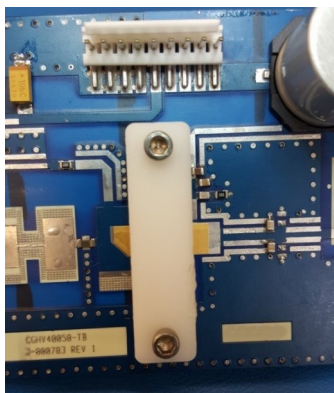
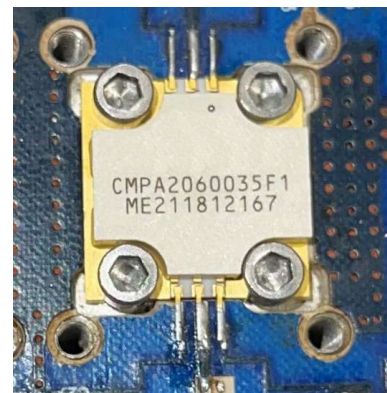

Figure 6
Figure 7
7. Use clamps, seen in **Figure 6** or solder the package leads, seen in **Figure 7** to make contact between the PCB trace and the package.